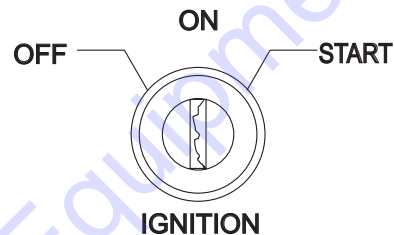

Figure 25. Ignition Switch
5. To start the engine, insert the ignition key (Figure 25) into the ignition switch and turn the key to the **ON** position.